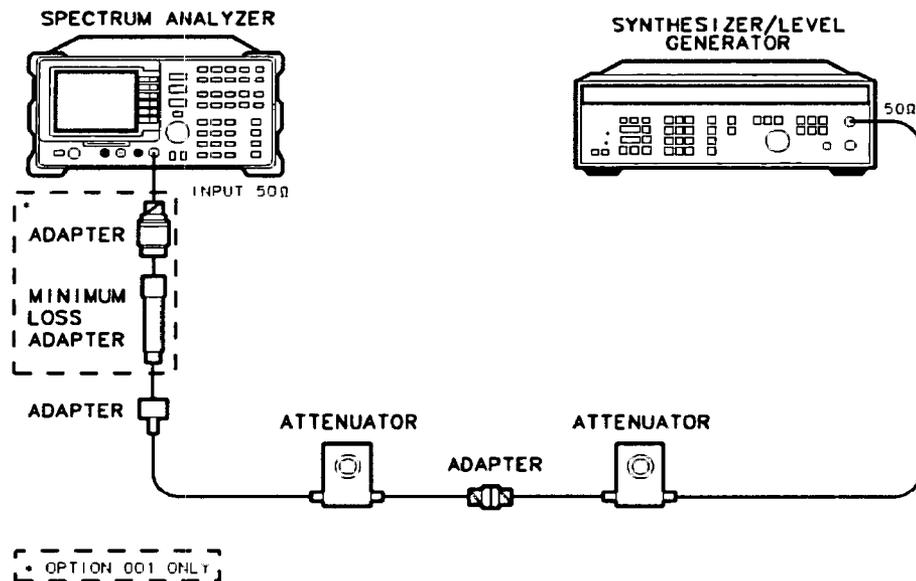

Figure 3-8. Input Attenuator Accuracy Test Setup
1. Connect the equipment as shown in Figure 3-8. Set the HP 355D to 20 dB attenuation and the HP 355C to 0 dB attenuation. *Option 001:* Connect the minimum loss adapter to the INPUT 75 Ω using adapters, and set the HP 355D to 10 dB attenuation.